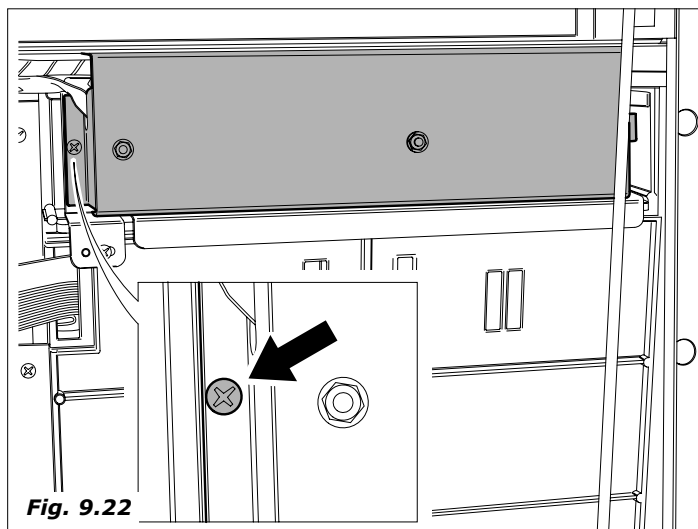

Fig. 9.22
- A rectangular casing element is fixed to the door by means of self-threading screws. Unscrew them (Fig. 9.22 and Fig. 9.23).